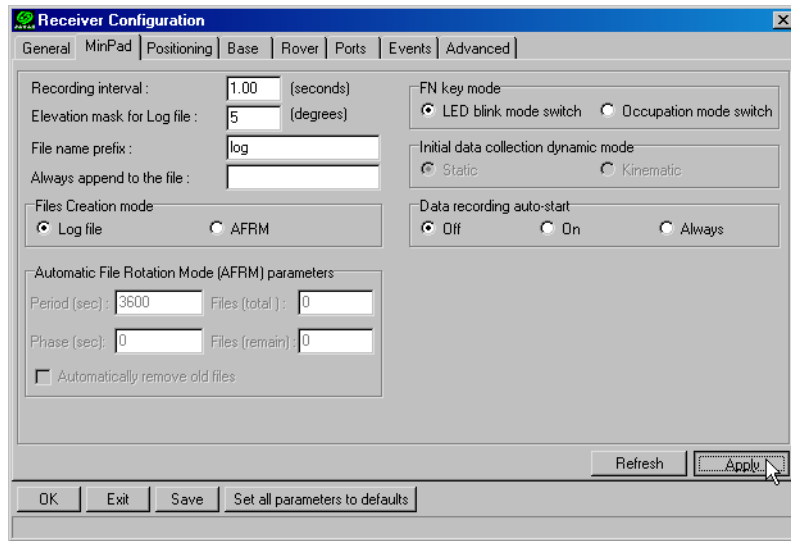

Figure 2-15. Receiver Configuration – MinPad Tab
3. Click the **MinPad** tab, configure the following settings, and click **Apply** (Figure 2-15 on page 50).